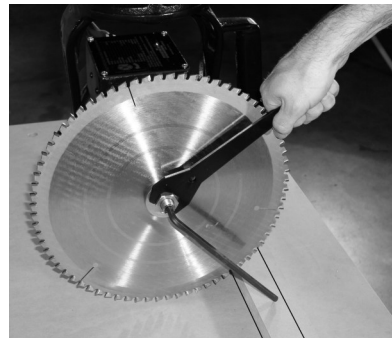

FIGURE 2
1. Place the hex box wrench over the arbor nut and place the long allen wrench in the arbor shaft end hole. Place a wood striking block under the allen wrench to avoid marring the tabletop. Push down on the hex wrench to loosen nut (left hand thread). (See figure 2)